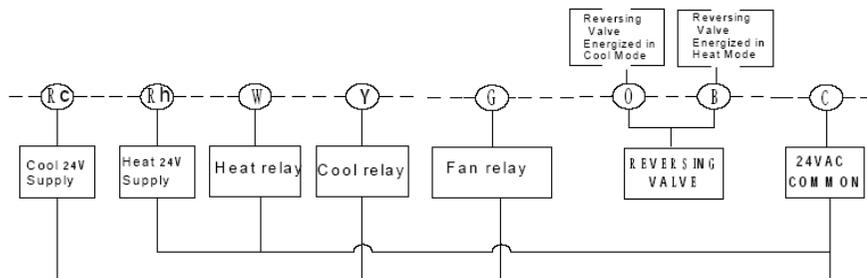

Figure 3, Typical wiring diagram for heat/cool, 5 wire two transformer systems.
9. Insert stripped, labeled wires into matching wire terminals. See "Wiring Diagrams", Section 3, Figure 3.